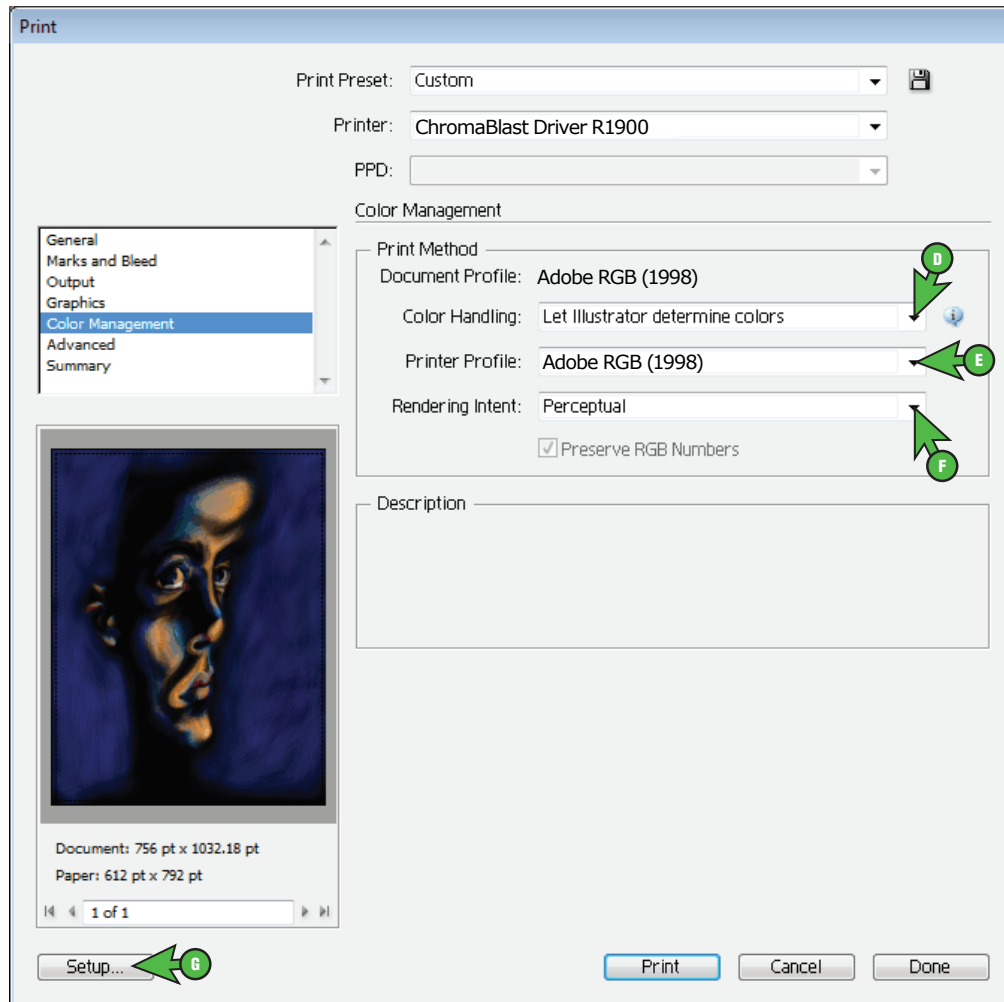

FIGURE 7
- C. Once your settings match, click **Color Management**. This opens the Color Management Screen (see *FIGURE 7*)